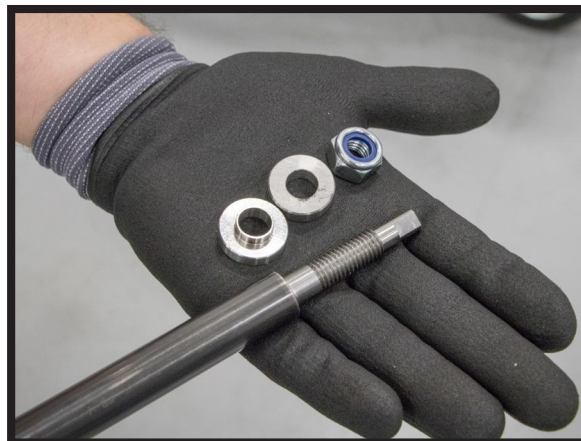

FIGURE 24
1. REMOVE THE UPPER MOUNT HARDWARE FROM THE SHOCK SHAFT (AS SHIPPED). (FIGURE 24)